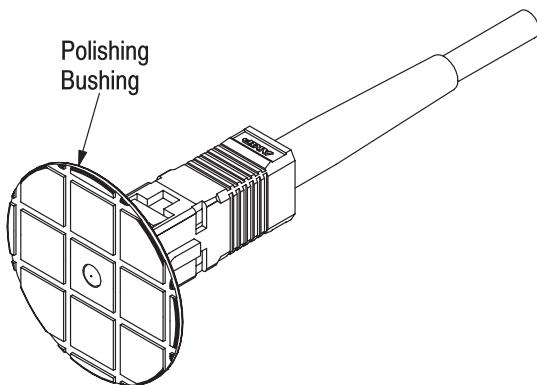

Figure 15
2. Install the connector into polishing bushing. See Figure 15.